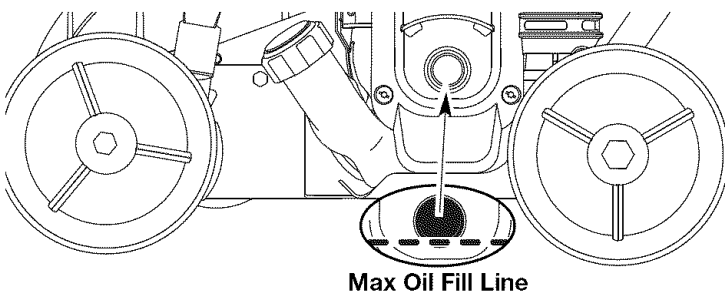

Fig. 22
2. Place the unit on a level surface to get an accurate oil level reading (Fig. 22).
5. Look into the oil fill hole, use a flashlight if needed. The oil should be just touching the innermost thread (Fig. 22).